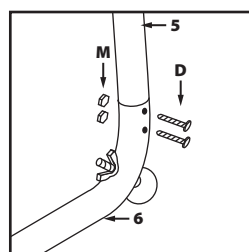

Fig. 9
- Select the components labelled **5** and **6**. Attach component **5** to **6** using the fixings labelled **D** and **M (Fig. 9)**.